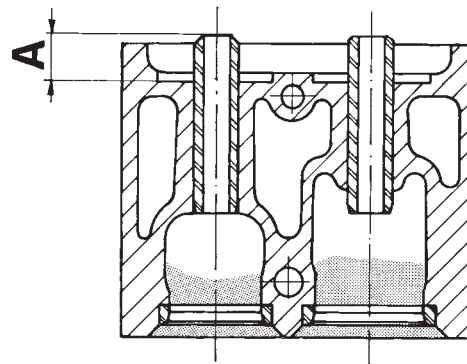

Fig. 6 Valve Guide Height
(1) Valve Guides height requirement.
(2) Measurement A (Fig. 6): 13.50 - 14.00 mm.